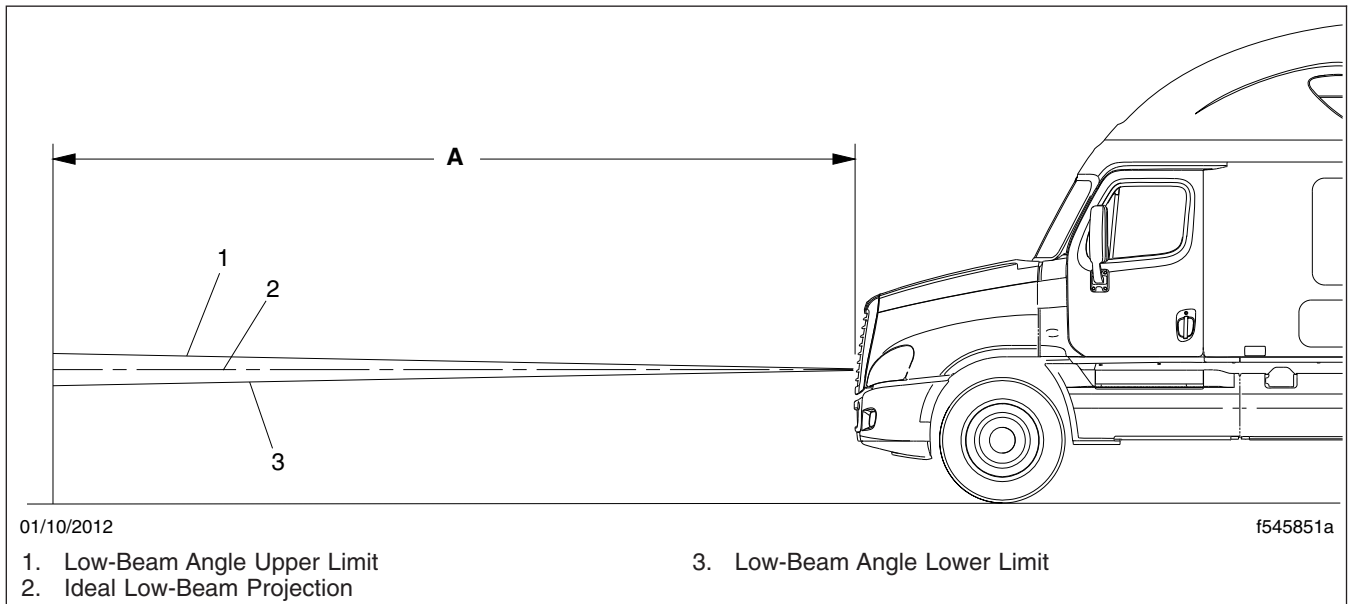

Fig. 23.3, Vertical Low-Beam Headlight Variation Limits
5. Check the vertical adjustment of the low beams. The center of each beam projection should fall on or near the marks made during step 3. See Fig. 23.3.